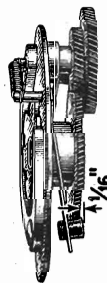

Figure 4—Adjustment of damper pads
- (c) Improper Adjustment of the Damper Pads. The damping pads with the necessary springs are provided to place a load on the 33 $\frac{1}{3}$  R.P.M. driving gear at all times while it is in operation. Placing such a load on the gear takes up any possible play and reduces the possibility of a "wow" during operation at the slower speed. Adjust these pads by slipping each spring to one side and bend them until they are  $\frac{1}{16}$ " beyond the opposite surface upon which they rest. (See Figure 4).